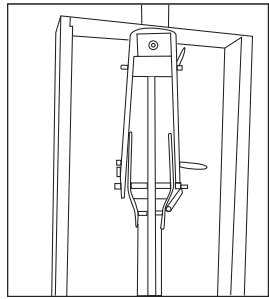

Fig 12
4. Shorten the length of the adjustable outer sleeve then extend arm to fit into conduit. Always make sure conduit and adaptor sits flush around the conduit you are pulling through. Thread rope under front roller and over main roller (Fig 12).